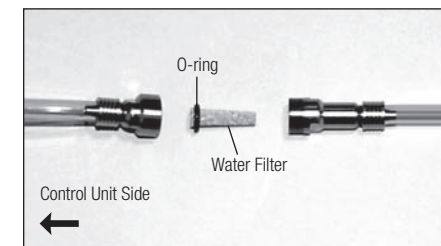

Fig. 34
- 2) When the Water Filter case is separated, the Water Filter can be removed as shown in Fig. 34. Replace with a new one and reassemble the filter in the reverse order.
Assemble the Water Filter in the correct direction as shown in Fig. 34.